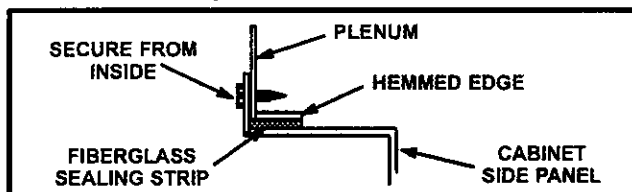

FIGURE 14
- 4 - In closet installations, it may be necessary to install sheet metal screws from the inside. If this is the case, make plenum with a removable front to install screws as shown in figure 14.